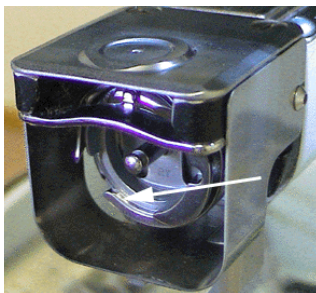

Figure 7-5
6. Place one drop of sewing machine oil in the rotary hook as shown in *Figure 7-5*. Be careful not to over oil. If you do squeeze too much oil, then you may need to run a sewout on some scrap fabric. This will prevent the excess oil from getting all over your garment.